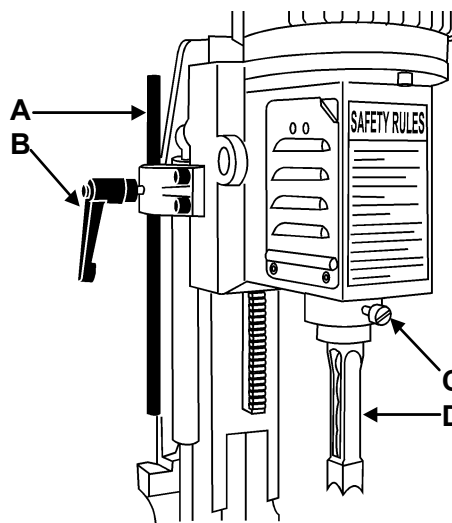

Figure 17
1. Set the *depth stop* (A, Fig. 17) to the required depth of cut. Refer to the *Depth Stop Rod Adjustment* section.